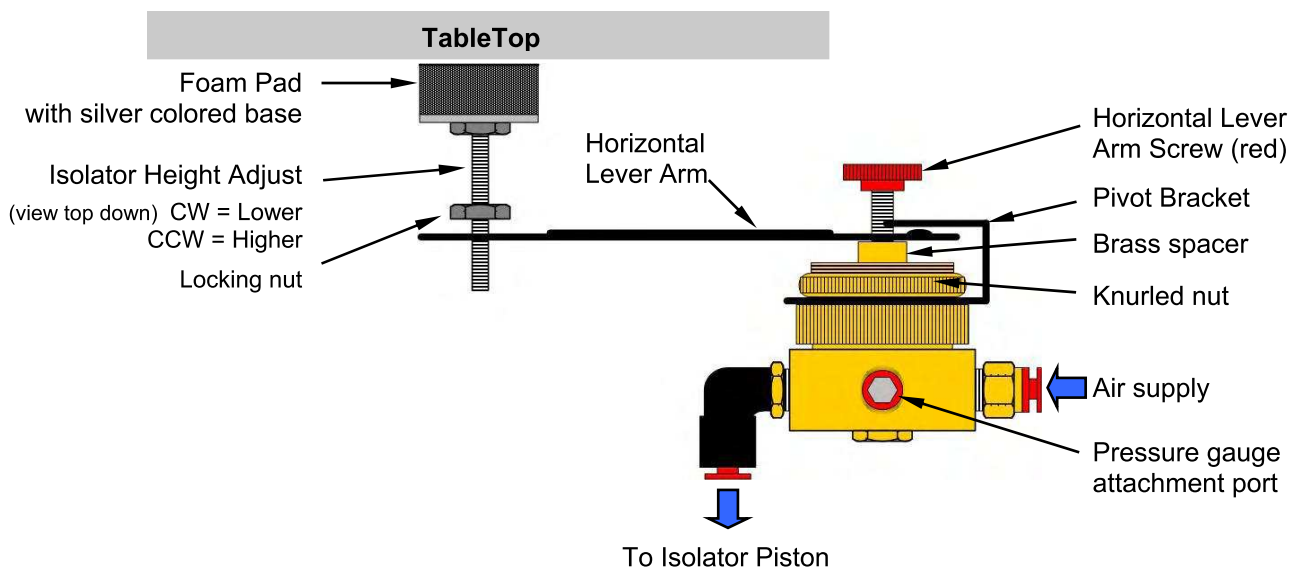

Figure 7 *Height Control Valve*
Step 17 Tighten *locking nut* on **ISOLATOR HEIGHT ADJUST** for all three valves as shown in figure 7 above, *Height Control Valve*.